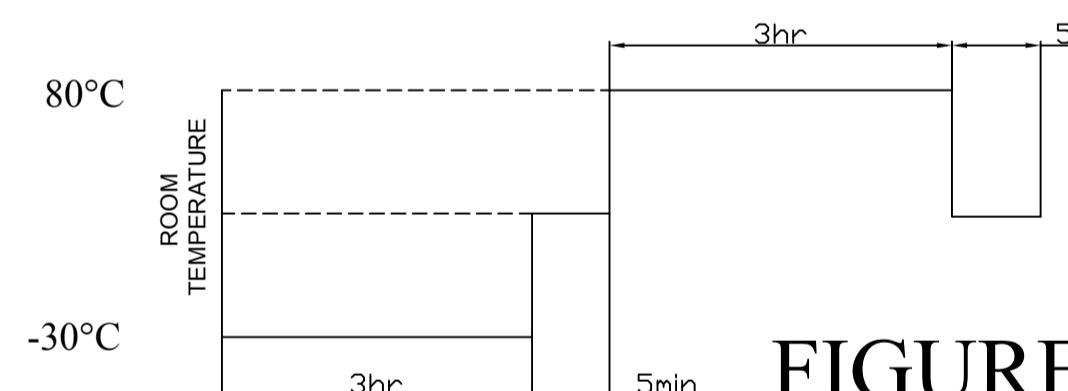

FIGURE 3
- ① test voltage: DC 13.5V,
- ② load 0.588N·m (6kgf·cm);
- 2) Vibration resistance test: Test in the order of ① → ② in the vehicle installation state,
- ① Resonance point detection: vibration frequency 5 ~ 100Hz, period 10min, vibration acceleration 5m / s2 / (0.5G), the detection condition is that the vibration measurement mode is the equivalent peak (EP);
- ② Vibration durability:
- 3) Temperature shock test: in the vehicle installation state, according to the cycle of Figure 3 for 6 cycles;